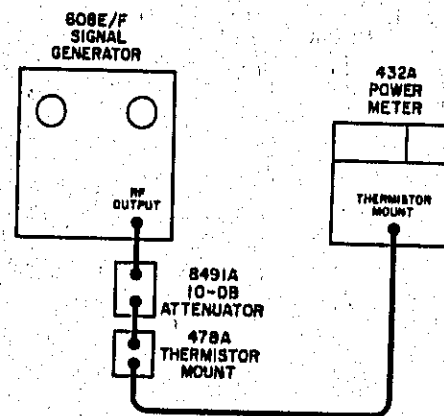

Figure 5-5. RF Output Test Setup
- Connect signal generator in test setup illustrated in Figure 5-5.
- Connect signal generator in test setup illustrated in Figure 5-5 omitting 8491A 10-DB Attenuator.